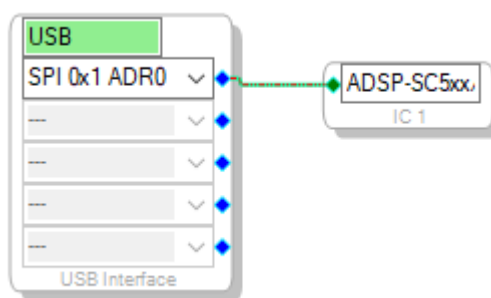

Figure 25: USBi to ADSP-2156x connection
7. Connect the first blue (output) pin of the 'USBi' to the green (input) pin of the 'IC 1' block as shown in Figure 25.